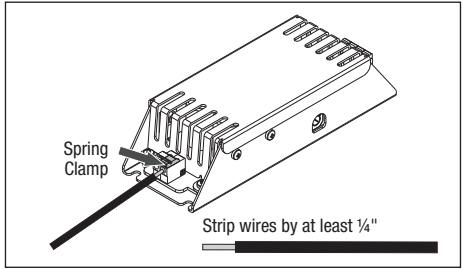
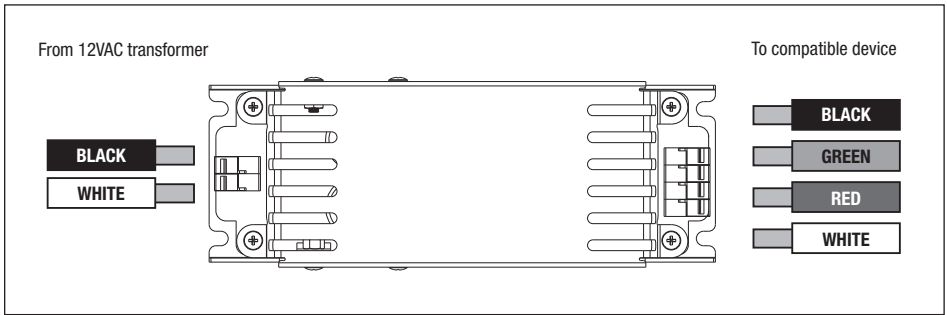

Figure 4. Wire Stripping and Insertion
Figure 5. RGB Wiring
2. Attach each of the four or five wires to the Smart Sync LED Adapter by pushing back an orange spring clamp and inserting the correct wire below. If needed, push back the orange spring clamps to release wires. See *Figure 4* for wire stripping and insertion, *Figure 5* for RGB wiring, and *Figure 6* for RGBW wiring.